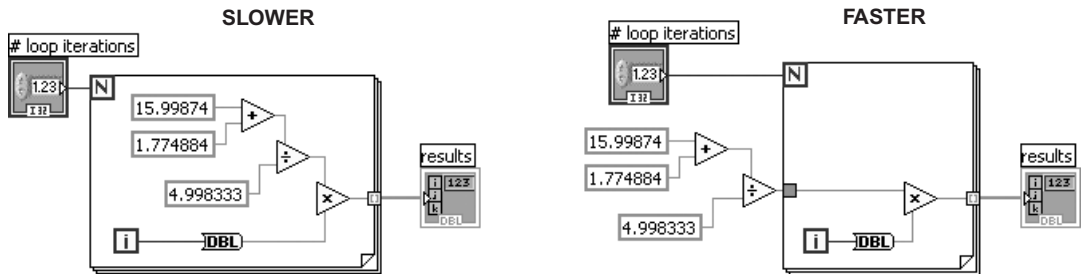

Figure 17.32
- How are you handling arrays and strings? Are you using loops where you don't have to? Sometimes there is a built-in function that can do the job, or several loops can be combined into one. LabVIEW is pretty smart about compiling efficient code, but it's still good practice to watch out for putting unnecessary elements into loops, as shown in Figure 17.32.